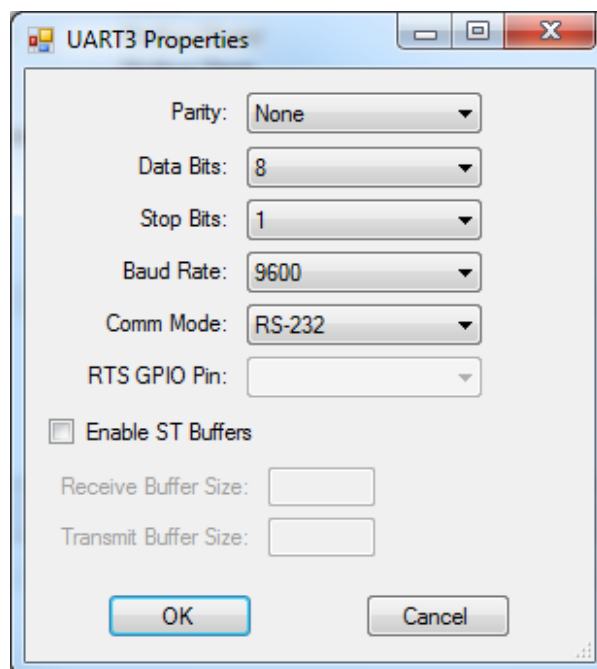

Figure 2-47 - UART3 Properties
5. Using the drop-down menu items, select the parity, data bits, stop bits, baud rate and Comm Mode. If you are planning to use structured text to communicate with devices on this port, click the Enable ST buffers checkbox and enter the transmit and receive buffer size. Refer to Figure 2-47. Click **OK**. The *UART3 Properties* dialog will close.